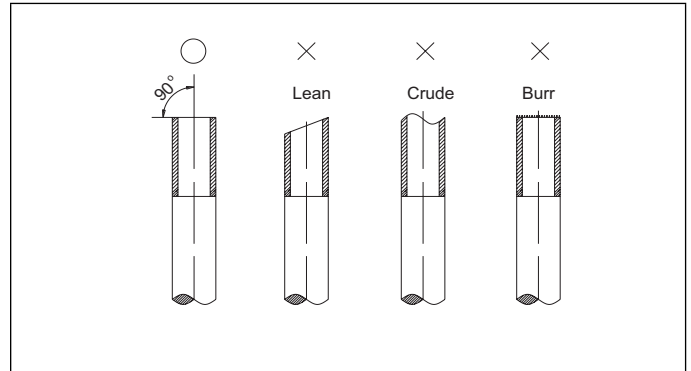

Figure 23. Cutting Piping
4. Cut the selected pipes with a pipe cutter. Make the cuts flat and smooth as illustrated in "Figure 23. Cutting Piping".